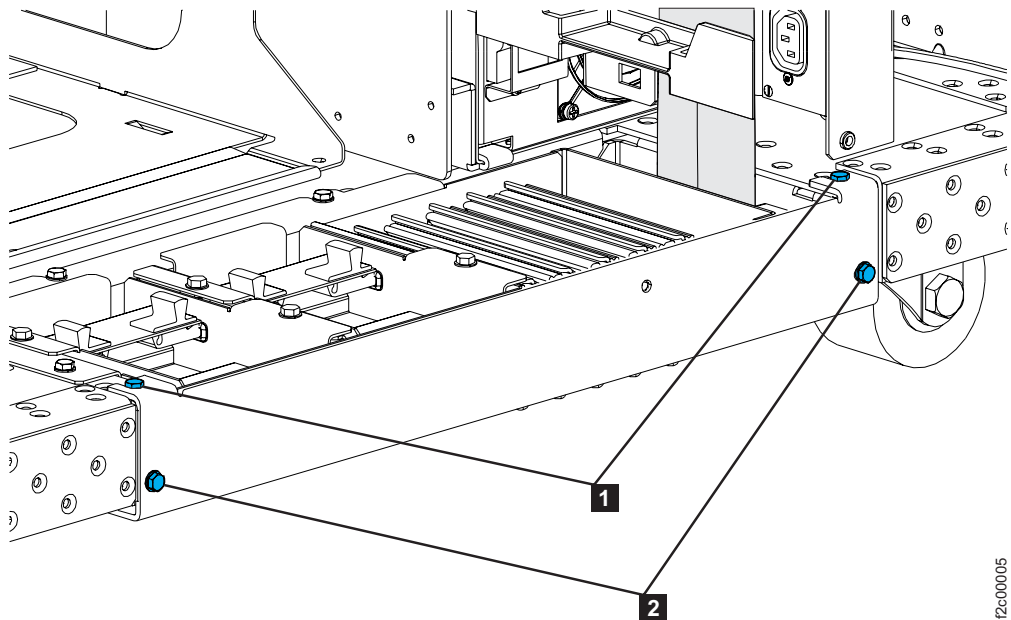

Figure 69. Tailgate frame bracket
14. Reinstall the tailgate brackets in all frames using the screws **2** removed earlier. Tighten all four screws **1** and **2**. See Figure 69